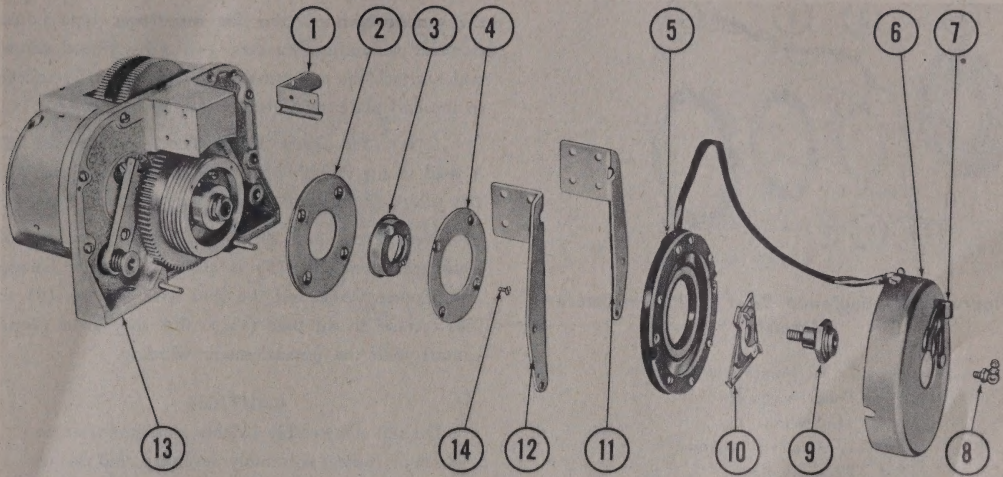

Figure 331 — Balance Potentiometer and Cover Assembly
(9) REMOVE AND DISASSEMBLE POTENTIOMETER ASSEMBLY.
(a) (See figure 331.)—Lift the potentiometer cover latch (7), and remove the servo unit potentiometer cover assembly (6). This latch is riveted to the cover and should not be removed unless it is damaged and requires replacement.
(i) (See figure 331.)—Remove the four flat-head screws (14) and countersunk external tooth lock washers from the wiper clutch friction clamping washer (4). Remove the clamping washer, the clutch friction collar (3), and the wiper clutch mounting plate (2).